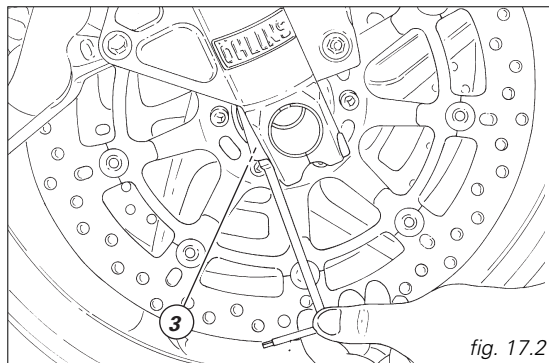

fig. 17.2
- 3) (fig. 17.2) to adjust compression damping.
To turn adjuster (3), fit a 3mm wrench through the hole as shown in figure 17.2.